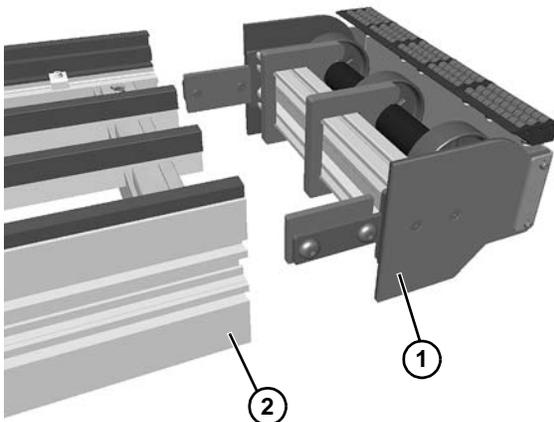

Figure 88
3. Remove the idler tail assembly (Figure 88, item 1) from the frame (Figure 88, item 2).